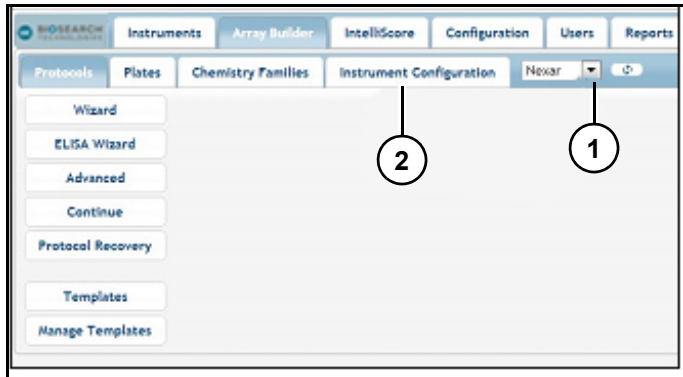

Figure 9
3. Click down-arrow (1) (Figure 9) and select Nexar to be controlled in software.
4. Click "Instrument Configuration" (2) (Figure 9).